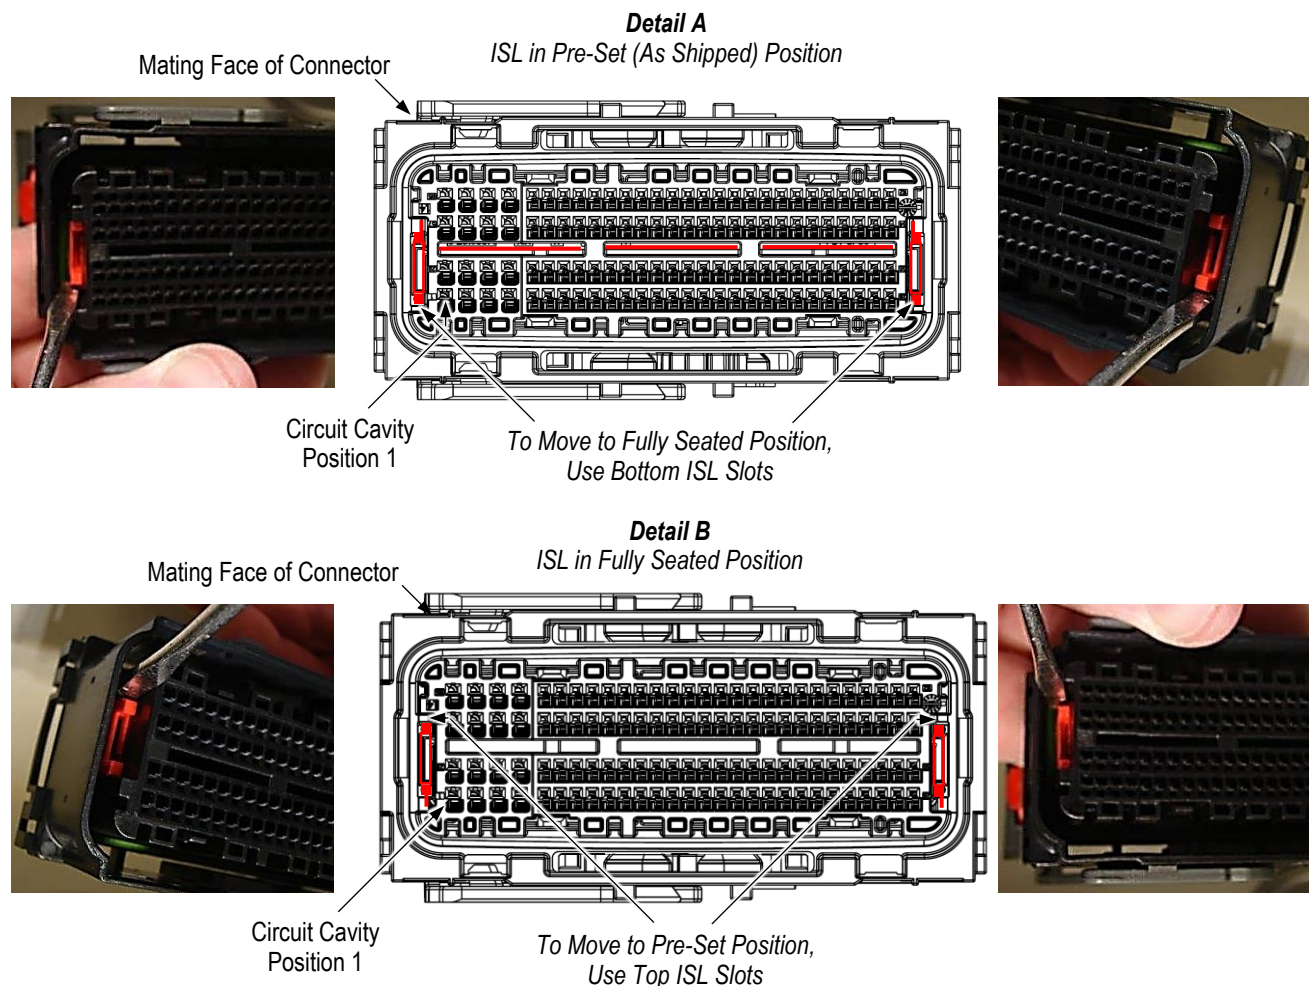

Figure 2
The ISL is in the pre-set position when, from the mating face of the connector, the red ISL is visible in the connector center slots as shown in Figure 2, Detail A. If it is not, from the mating face of the connector with circuit cavity position 1 oriented at the bottom left, alternately insert the tip of a small screwdriver into the top ISL slots, and move the ISL down until it stops. There will be an audible click from each side.
The ISL is in the fully seated position when, from the mating face of the connector, the red ISL is not visible in the connector center slots as shown in Figure 2, Detail B. To move the ISL to the fully seated position, from the mating face of the connector and the connector oriented with circuit cavity position 1 at the bottom left, alternately insert the tip of a small screwdriver into the bottom ISL slots, and move the ISL up until it stops. There will be an audible click from each side.
4. Insert the terminal into the cavity until it bottoms. There should be an audible or tactile click when the terminal is locked into place. Gently pull the wire to ensure the terminal is locked into place. If the terminal does not lock into the cavity check to verify that the ISL is open per figure 2 and that the terminal is in correct orientation to the circuit cavity per figure 3 and re-insert the terminal. For circuits with individual wire seals, check to ensure that the seal is below the top of the circuit cavity after successful insertion of terminal.